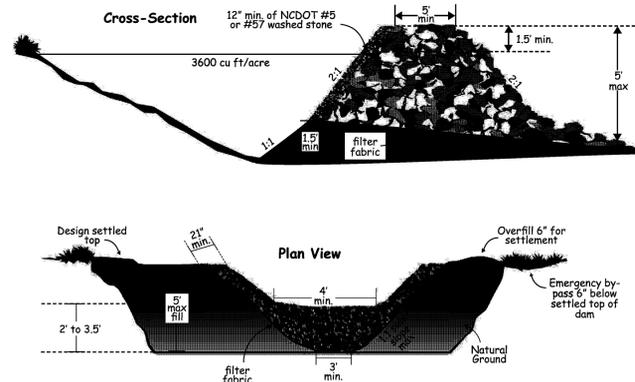

Figure 6.60a Plan view and cross-section view of a temporary sediment trap.
**Weir length and depth**—Keep the spillway weir at least 4 feet long and sized to pass the peak discharge of the 10-year storm (Figure 6.60a). A maximum flow depth of six inches, a minimum freeboard of 1 foot, and maximum side slopes of 2:1 are recommended. Weir length may be selected from Table 6.60a shown for most site locations in North Carolina.